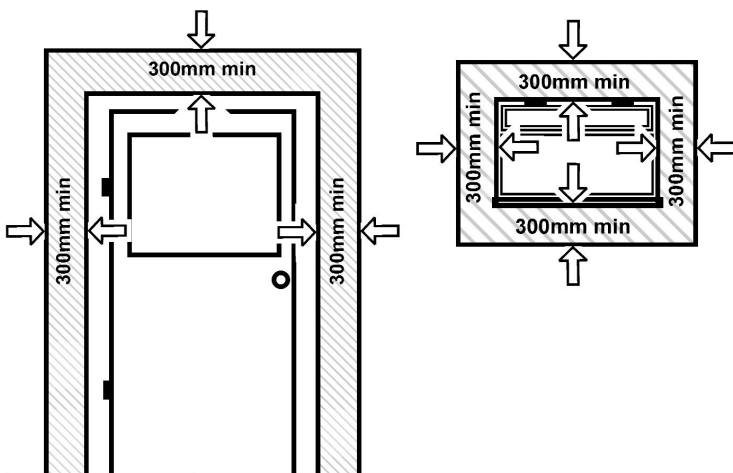

Fig. 7
*In addition, the terminal should not be nearer than 300mm to an opening in the building fabric formed for the purpose of accommodating a built-in element such as a window frame or door frame (Fig. 7).